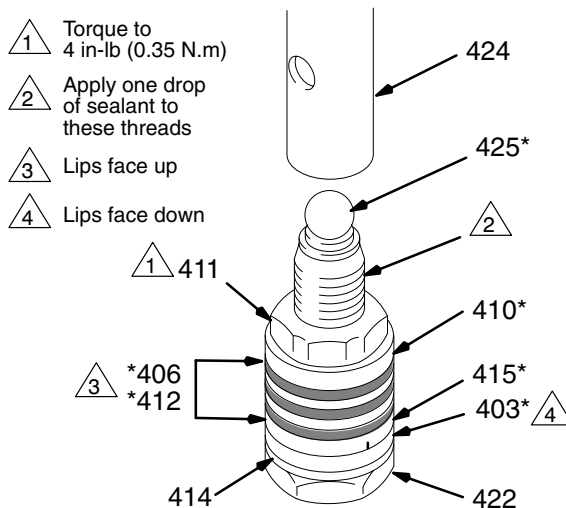

Fig. 30
- Clamp the flats of the piston rod (424) in a vise. Loosen the retaining nut (411). Unscrew the piston valve (422). See Fig. 30.
- Disassemble the piston valve (422). See Fig. 30.
- Check the outside of the piston rod (424) and the inside of the sleeve (418) for scoring or scratches. If the parts are damaged, new packings will not seal properly. Replace these parts if needed.
- Alternate leather and plastic packings as shown in Fig. 30. The lips of the throat “V” packings must face down. The lips of the piston “V” packings must face up. The lips of the U-cup seal (403) face down. Incorrect installation damages the packings and causes the pump to leak.
- Stack the backup washer (414), seal (403*), female gland (415*), alternate the packings (412*,406*), and then male gland (410*) onto the piston valve (422). See Fig. 30.
- Tighten the packing retaining nut (411) onto the piston valve (22) to the torque specified in Fig. 30.
- Put the ball (425*) on the piston valve (422). See Fig. 30.
- Apply one drop of adhesive, supplied, to the threads of the piston valve. Then hand tighten the valve assembly into the piston rod just until the nut (411) contacts the rod. See Fig. 30.
- Place the flats at the top of the rod (424) in a vise.